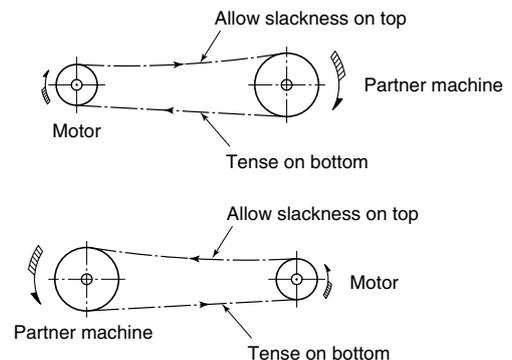

Fig. 2 Belt guiding method
(2) Belt drive
- a. Set the motor and partner machine so that the shafts are parallel, and so that the centers of both pulleys are at a right angle on the same line. (Refer to Fig. 2.)
- b. Make sure that the lower side of the belt is the tensed side. For this, determine the rotation direction of the partner machine, and determine the motor position. (Refer to Fig. 2.)